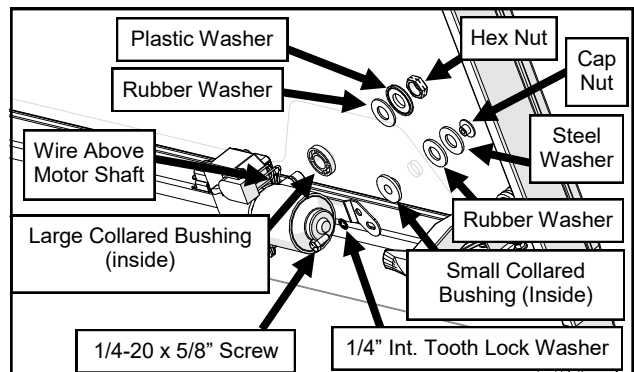

Fig. 12.1 (Windshield Wiper Motor)
12.1 Mount the wiper motor to the windshield. See Figure 12.1. Make sure the wires are above the wiper motor shaft to prevent pinching the wires when the windshield is opened and closed, then connect to the wire harness.